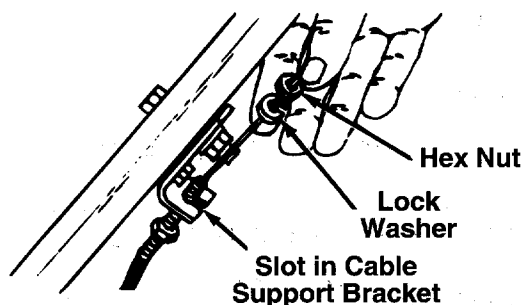

FIGURE 2.
2. Slip the cable wire and threaded end fitting up through the slot on cable support bracket. See figure 2.